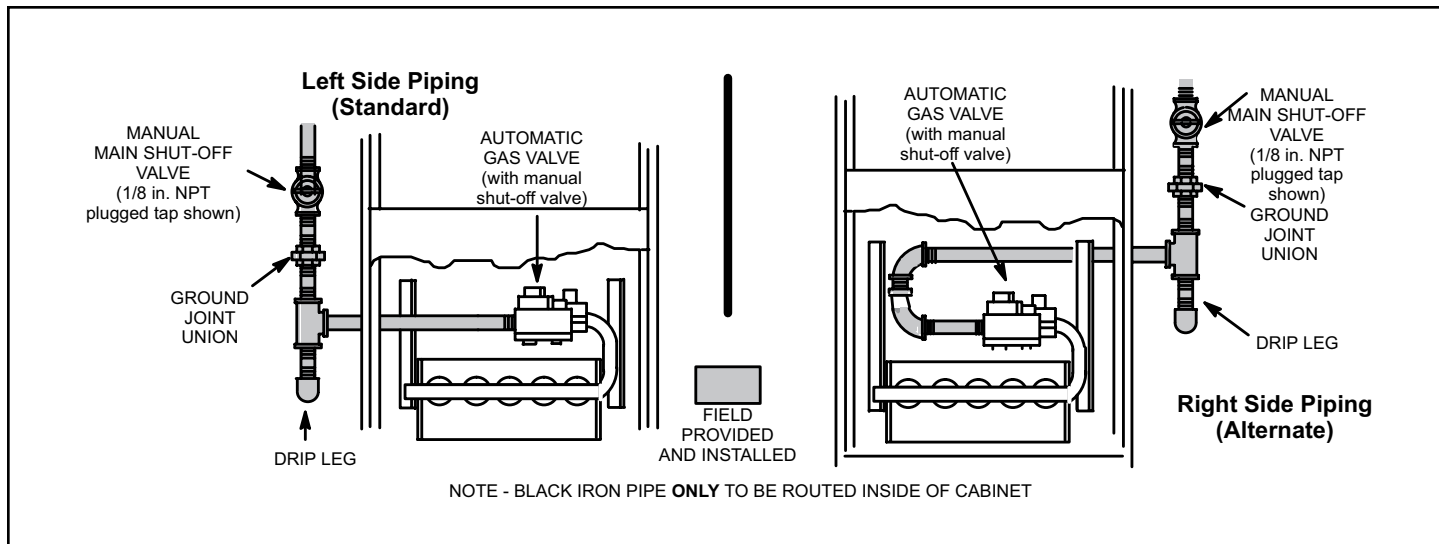

Figure 50.
1. Gas piping may be routed into the unit through either the left or right hand side. Supply piping enters into the gas valve from the side of the valve as shown in Figure 50. Ensure opposite gas line entrance is plugged with supplied plug.
3. Gas piping must not run in or through air ducts, clothes chutes, chimneys or gas vents, dumb waiters or elevator shafts. Center gas line through piping hole. Gas line should not touch side of unit. See Figure 50.